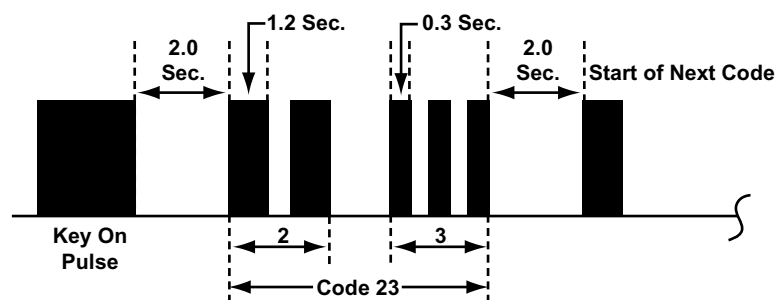

Figure 8-41 Honda SRS Code Type 07
- Type 07, see Figure 8-41 and Table 8-16 on page 84